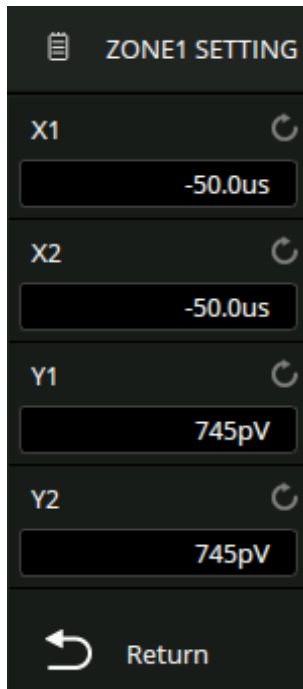

Figure 9.35
5. The **Region Setting** menu shown in figure 9.35 allows for adjustments of the available axes.